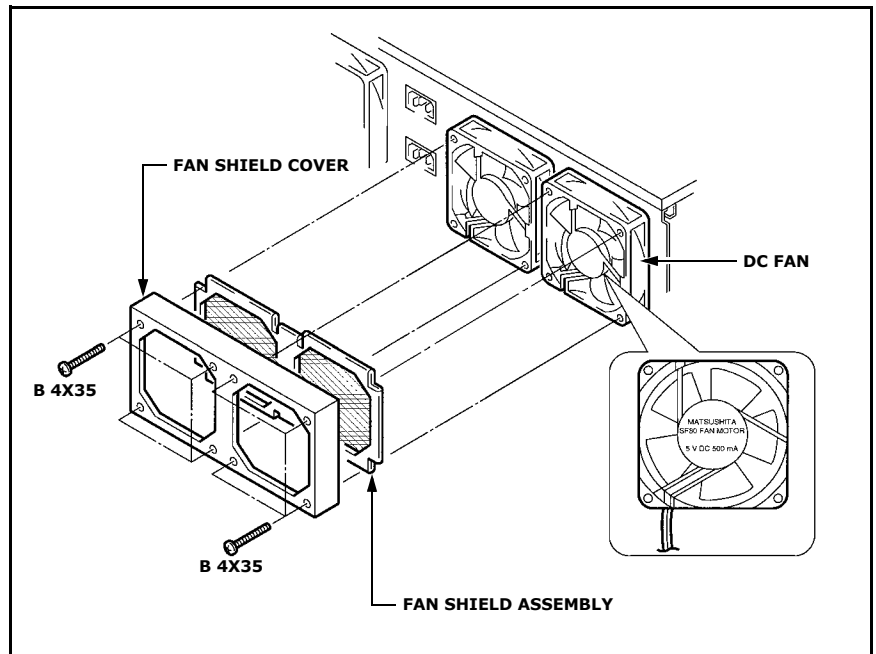

Figure 1
1. Remove the fan shield cover and the fan shield assembly by removing eight screws. (See Figure 1.)